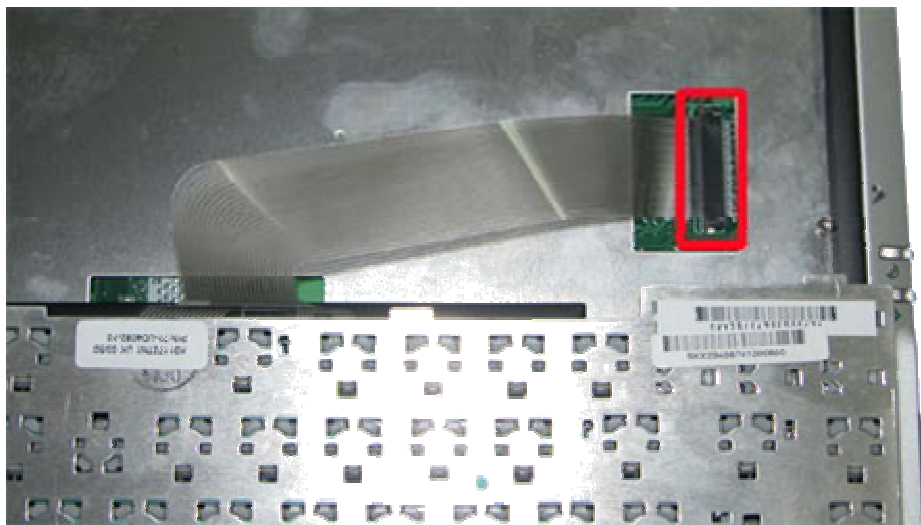

Fig. 9 Disconnecting the keyboard flat cable
2. Lift up the keyboard and disconnect it from the system as shown in Fig. 9